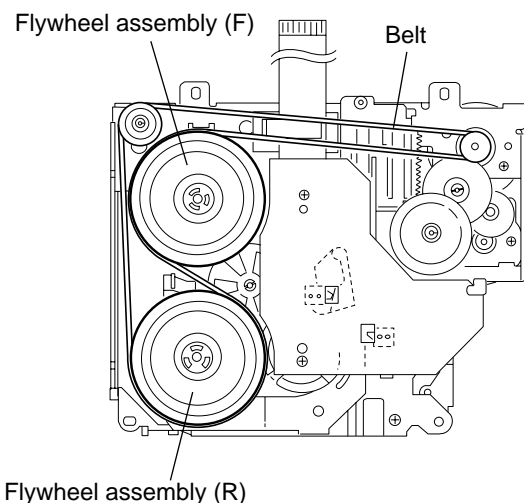

Fig.18
■ Removing the flywheel assembly (F) & (R) (See Fig.18 and 19)